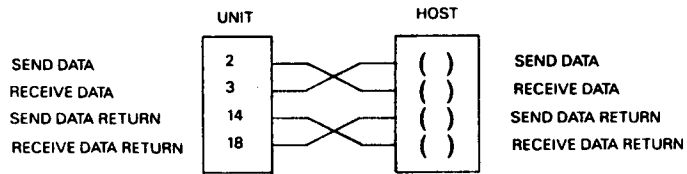

**Figure 6-1. RS232C Half/Full Duplex Without Handshake**
**6.4 RS232C INTERFACE (See Figures 6-1 and 6-2)**